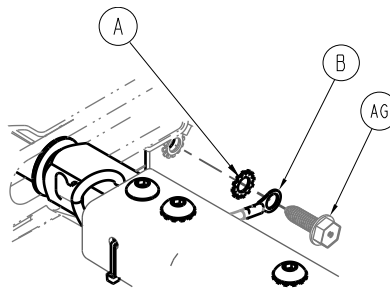

Figure 41 – Head end hex washer head thread rolling screw
- a. At the head end of the IR/nurse call assembly, insert one of the hex washer head thread rolling screws (AG) (removed in step 10) through the ground wire eye (B), then through an external tooth lock washer (A) (Figure 41).